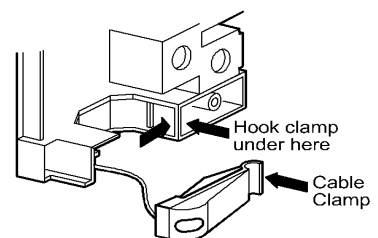

Fig.10
- Lift cover and remove screw from cable clamp. See Fig. 10.